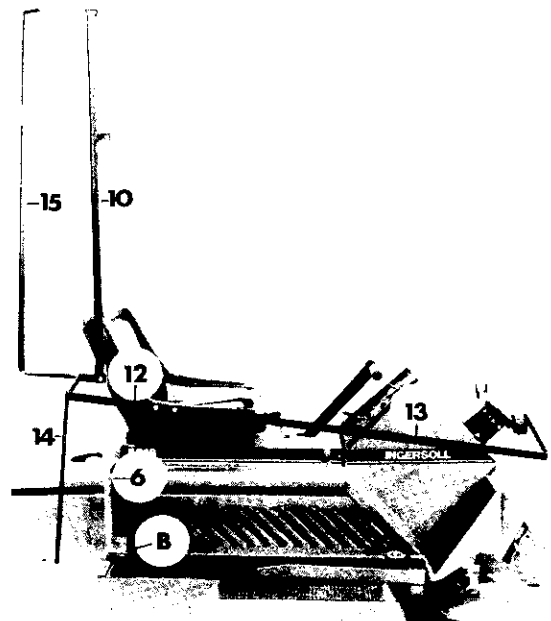

FIGURE 5
STEP 5; SEE FIGURE 5:**FOR GAS MODELS:**